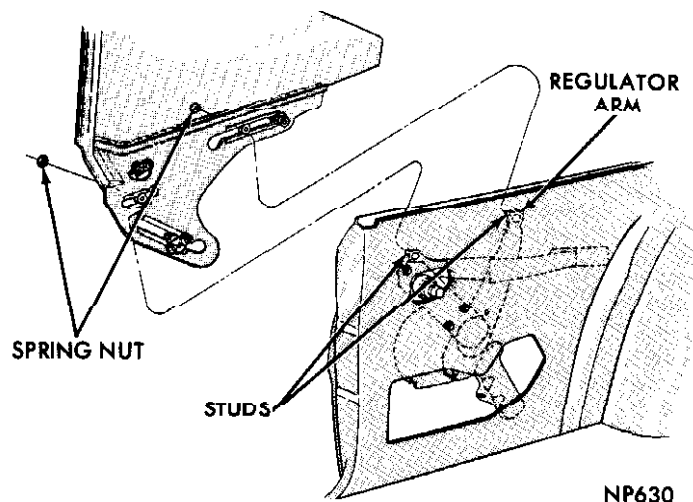

Fig. 40—Quarter Window Replacement—Hardtop
- (1) With glass in mid-position, remove spring nuts from regulator arm studs (Fig. 40) and studs from rollers.